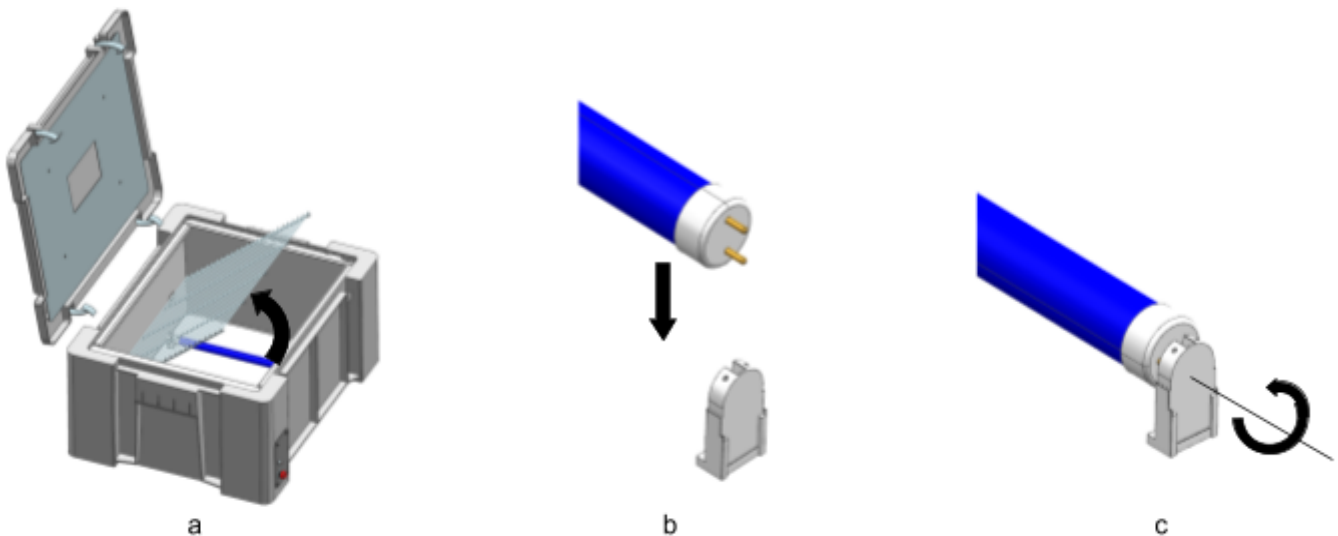

Figure 2: Bulb Installation Instructions
Step 2: Open the bottom section by lifting the rack (part 3). It will hinge to the back. (Figure 2.a)
Step 3: Unpack the UV bulb (part 5) and insert it directly from above into the bulb holders(part 4). (Figure 2.b)
Step 4: Turn the UV bulb clockwise by 90 degrees to secure it in the holders. (Figure 2.c)